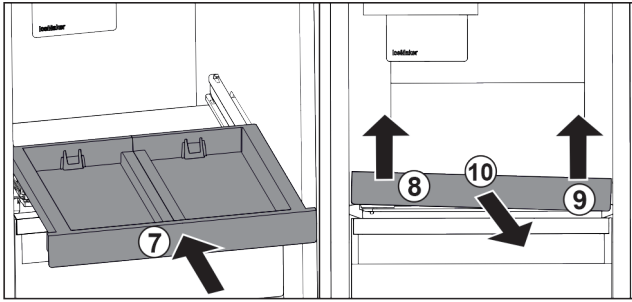

Fig. 91
- ▶ Slide in the pull-out board. Fig. 91 (7)
- ▶ Lift the pull-out board on the front left. Fig. 91 (8)
- ▶ Lift the pull-out board on the front right. Fig. 91 (9)
- ▶ Take out the pull-out board to the front. Fig. 91 (10)